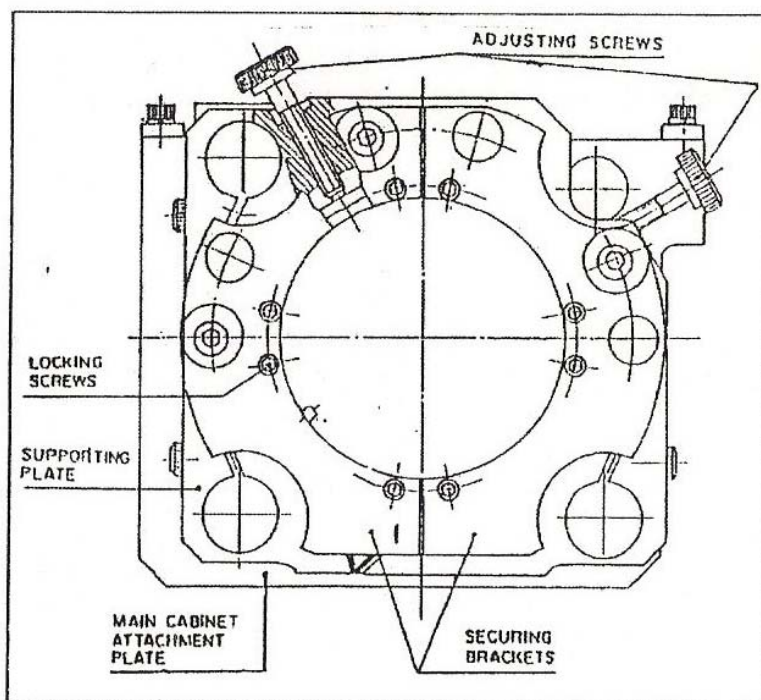

FIGURE 1. CO₂ LASER TUBE SUPPORTING PLATE
screws (see Figure 1).
8. Remove the eight CO₂ laser front securing screws and the three CO₂ laser front locking screws (with their discs). See Figure 1.